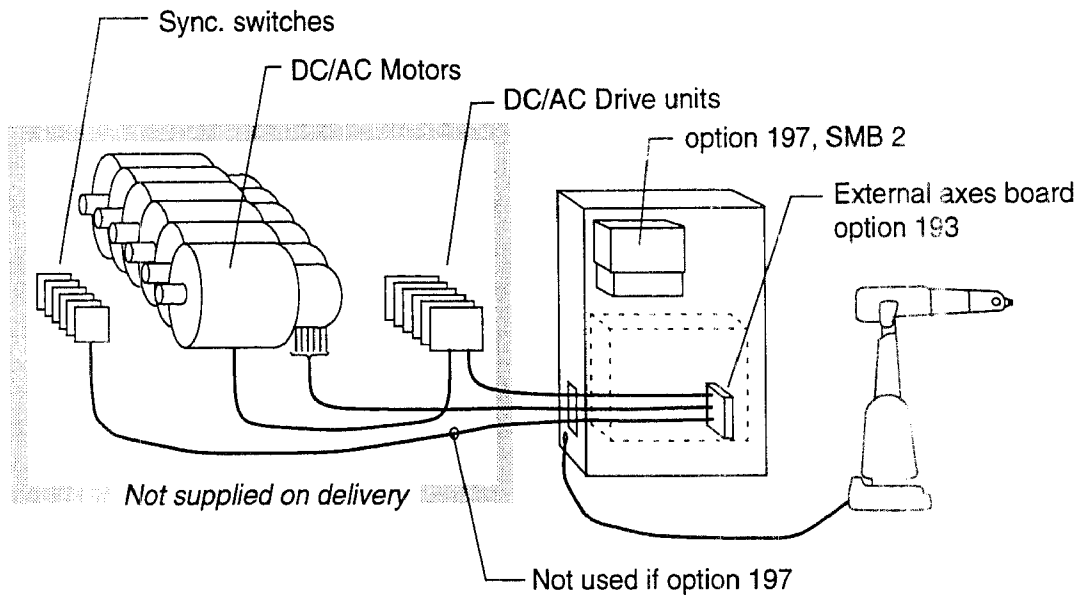

Figure 39 External axes with external drive units.
- a DC/AC motor controlled via an external drive unit (see Figure 39).